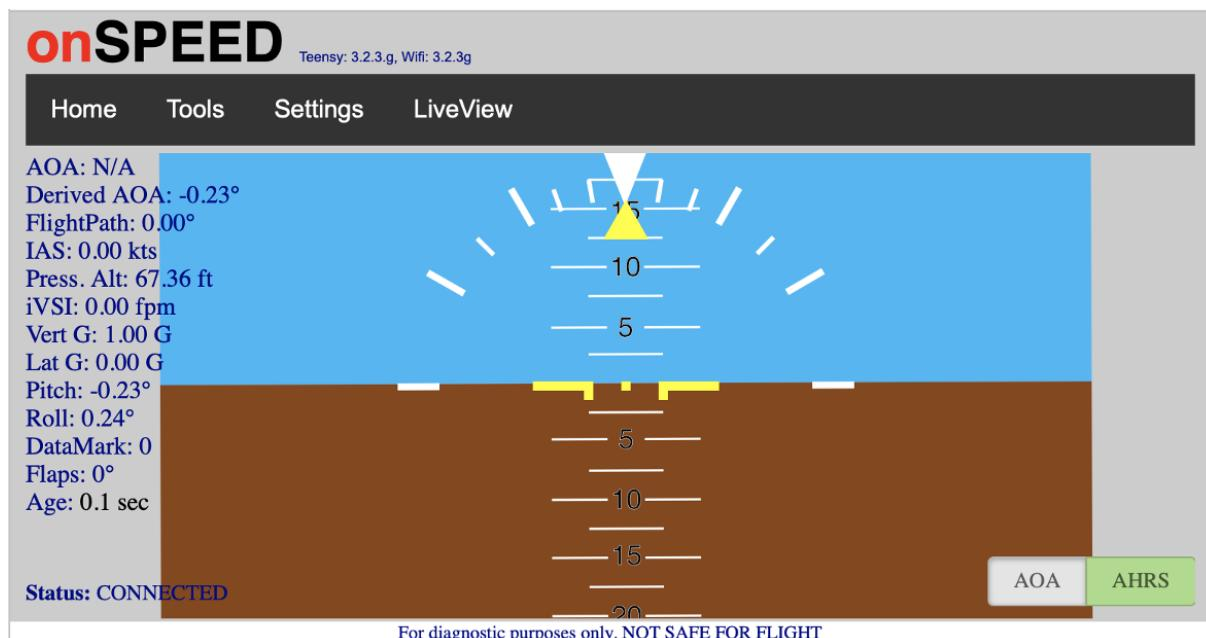

Figure 25. Live View AHRS display with EFIS selected as calibration source and box powered by external battery connected to micro-USB port.
2. If the system is powered by a battery connected to the micro-USB port, and the calibration source is set to EFIS (i.e., the EFIS is not powered up), the Live View AHRS display will display zero pitch and roll (Figure 25). Change the calibration source to ONSPEED IMU to display current attitude using SETTINGS > SYSTEM CONFIGURATION menu.